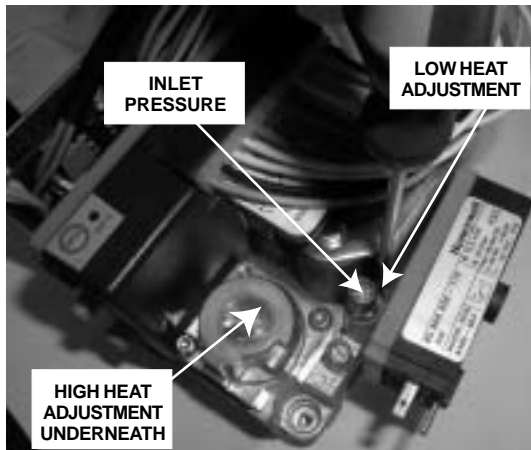

Fig. 25
- Check and adjust if necessary the valve **Inlet** pressure to 20.0 mbar (G20) or 25.0 mbar for Groningue (G25) after gas burner ignition. (figure 25)